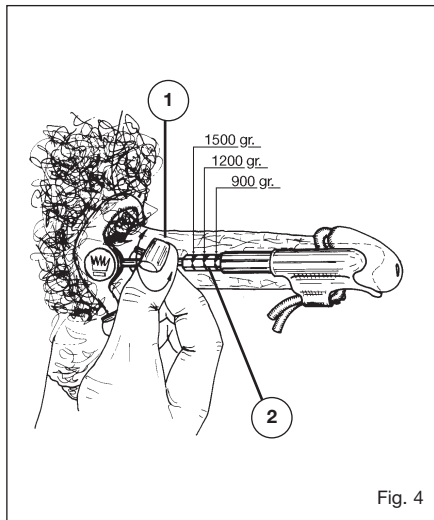

Fig. 4
When the device has been fitted the force of traction can be adjusted by turning the two thumb-screws (1) in an inward direction. The actual force exerted can be read on the hexagonal pistons (2) and the force of traction can be varied from 900 to 1200 or 1500 g (see fig. 4). Each marking on the piston equals a traction force of 300 g. Thus, at the exertion of maximum force (1500 g) only one marking is visible on the piston. A force of 900 g is recommended for the first 2-3 weeks and during that period the Extender should not be worn for more than 4-5 hours a day. From then on the force may be increased to 900-1200 g and to 6-12 hours daily usage of the device. You can continue to use the device for further months.